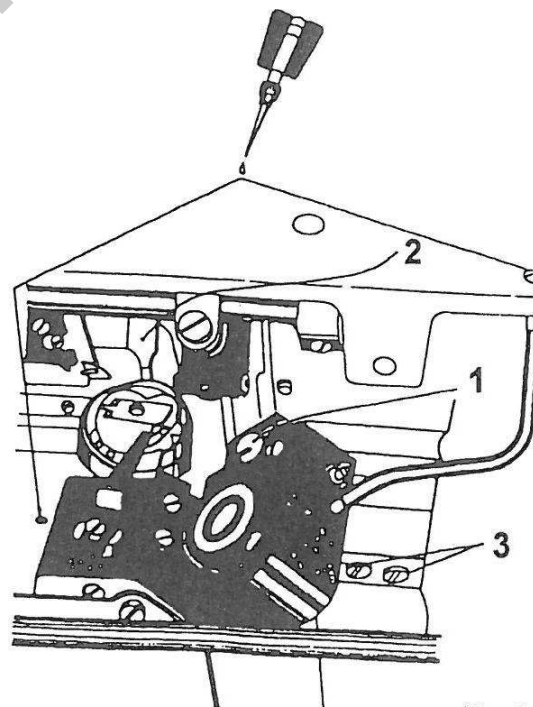

Fig. 2
**6. To adjust the hook lubrication (Fig. 2)**
**10. To adjust the hook holder (Fig. 2)**